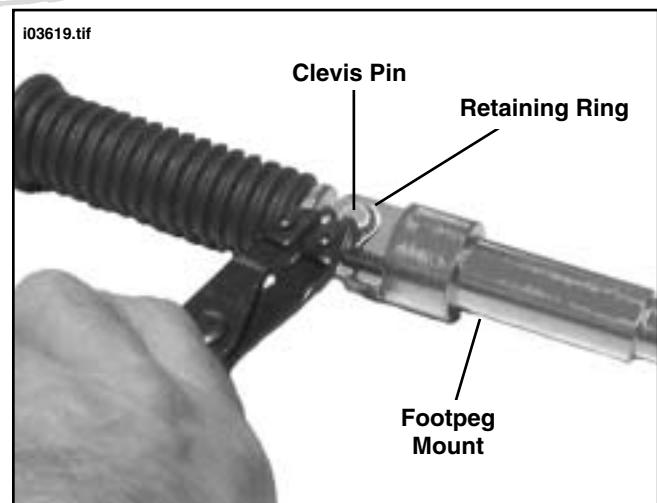

Figure 3. Install Footpeg to Footpeg Mount
3. See Figure 3. Using small retaining ring pliers, remove retaining ring and clevis pin from footpeg. Remove footpeg and spring clip. Save spring clip but discard footpeg mount, retaining ring and clevis pin. Repeat step for the remaining footpeg.